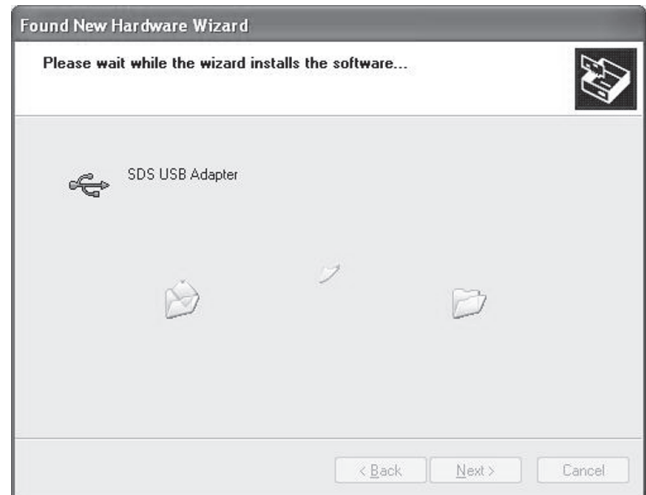

Fig.26
- The Driver Installation window (Fig.26) appears and driver installation begins.